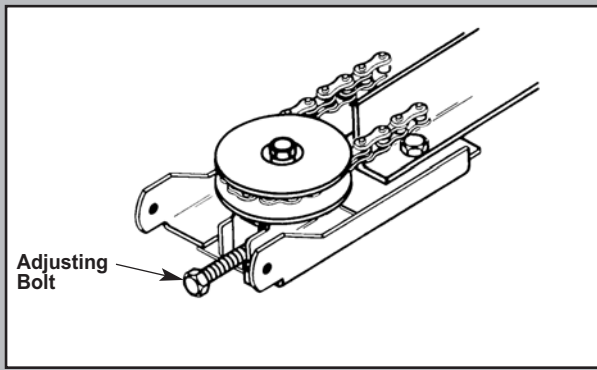

Fig. 1-4
- Insert the two (2) 5/16" x 1/2" hex head screws [112], then two (2) No. 10-24 x 1/2" hex head screws [69].
6. **Use adjusting bolt to set chain tension (Fig. 1-4)**